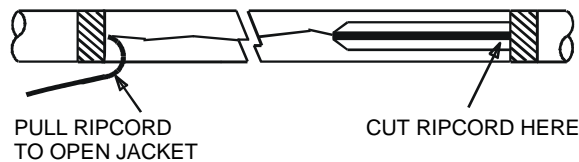

Figure 12 – Pull the ripcords through the outer jacket.
4. Cut the exposed ripcords near the tape marks (Figure 12).
5. Pull each ripcord through the outer jacket to the opposite tape mark (Figure 12).